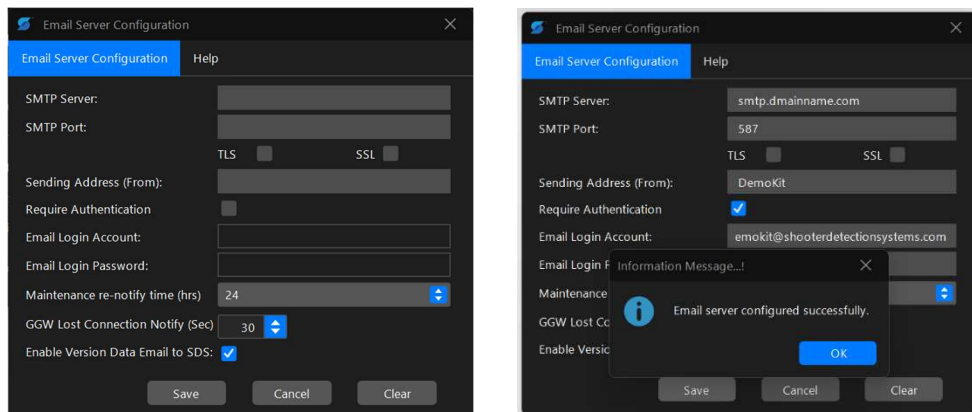

Figure 27 – Email Server Configuration
2. Enter the email server (smtp server) which will be used for the system. See Figure 27 (l).
12. Choose **“Configure”** and **“OK”**. See Figure 27 (r).